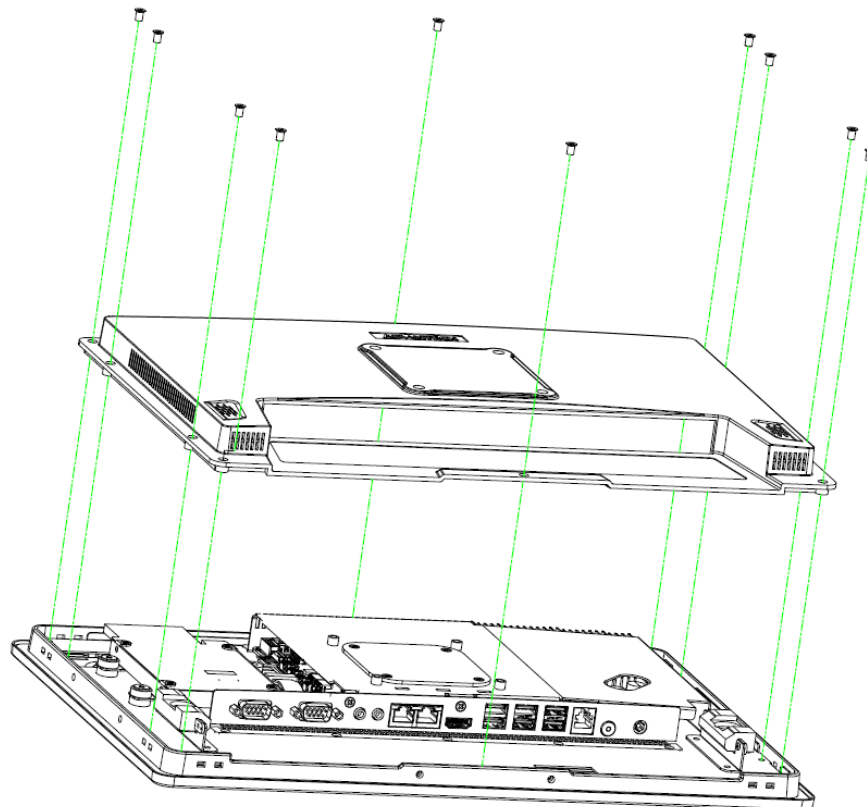

Figure 3.1 Installing an HDD
2. Insert the HDD into the metal bracket and tighten the screws to affix in place (see Figure 3.1).